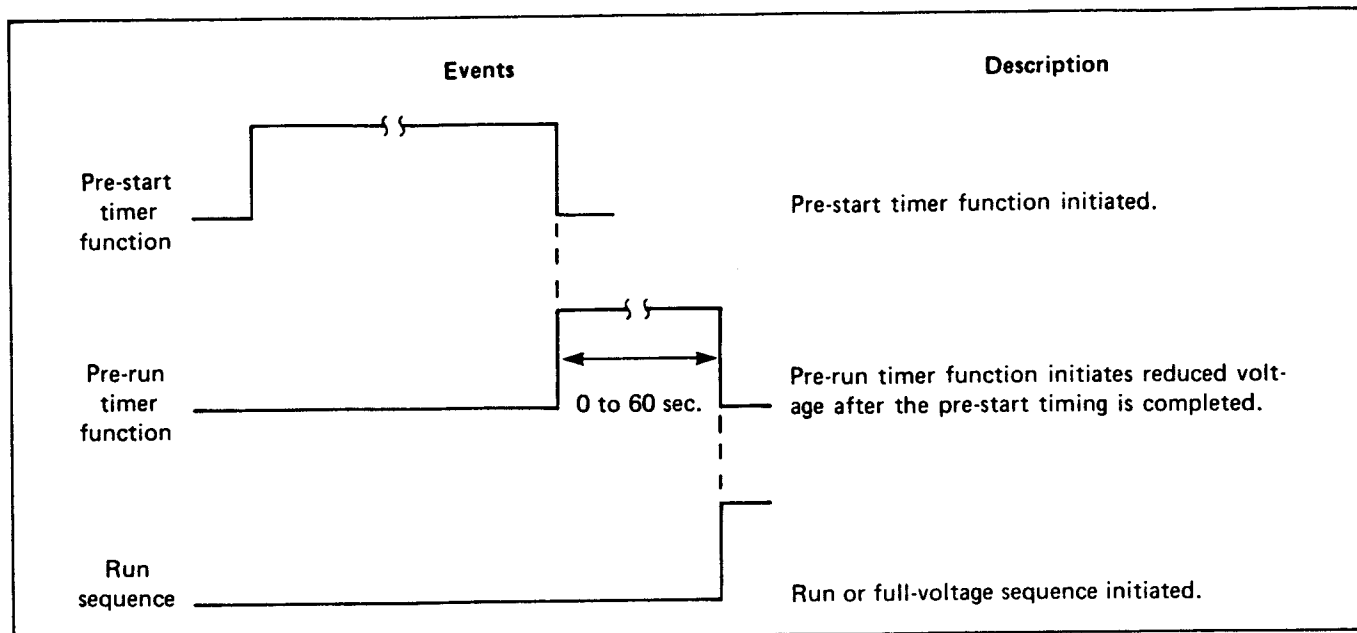

Figure 6.3 – Pre-run Events Diagram
6.15 Pre-Run Timer – The pre-run timer setpoint function is used with multi-step starter applications—such as reactor or autotransformer type starters—to define the time that the intermediate or reduced-voltage contactor will be energized. This function is initiated during the start cycle immediately after the pre-start timer function has timed out. (See Figure 6.3 and 5.6.) After the pre-run timer function has timed out, the run (full-voltage) sequence begins. This function is also used in conjunction with the jam function. It disables the jam function until after the motor has accelerated up to full speed.